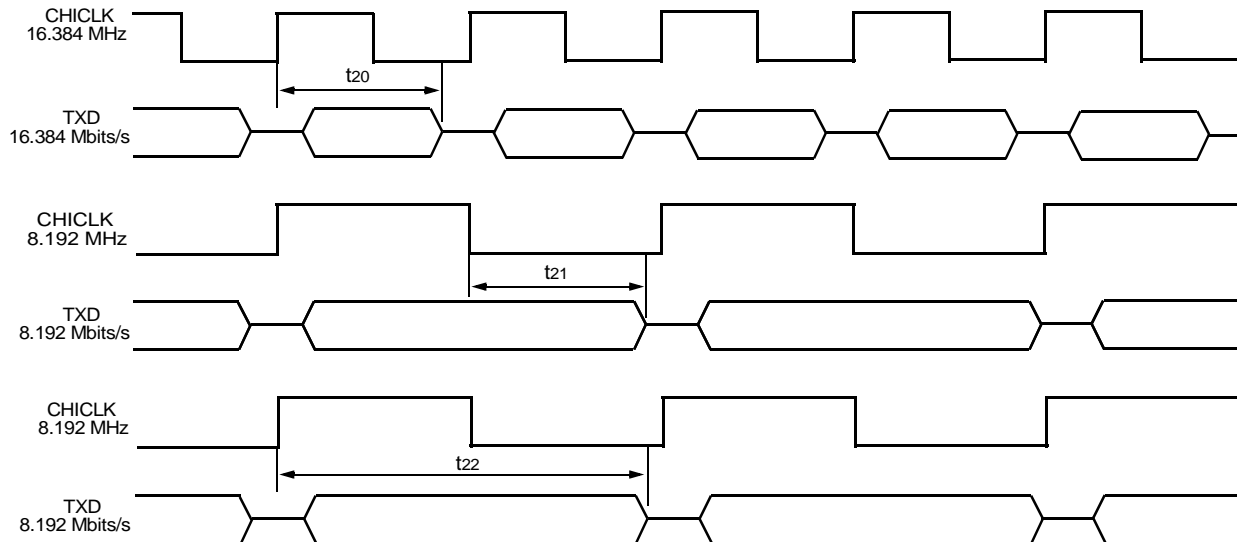

Figure 17. CHI 3-state Output Control
* Applies if Driver_Enable_Control = 01; see Figure 17, CHI 3-state Output Control, if Driver_Enable_Control = 11.